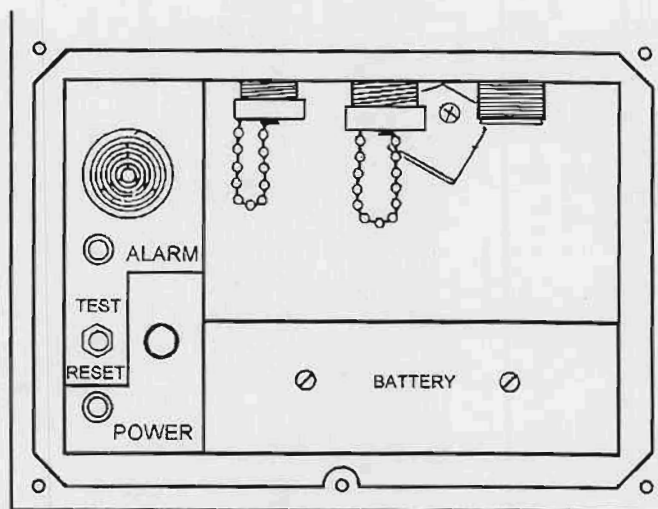

Figure 2-3. Control panel components.
indicator light will be on. No switching or adjusting is necessary. The connector receptacles, switches and indicators of the unit are all located on the control panel (fig 2-3) and are marked with their functions.
(3) *Installation of alarm battery pack.* Install a charged battery pack in the front panel recess (fig 2-3). The indicator of the compartment thermometer will light. If the battery voltage is low, no light will appear on the thermometer. The battery pack will charge automatically when power is provided to the unit. To ascertain the performance of the battery pack, disconnect the refrigerator after approximately 15 minutes and observe the light on the thermometer, indicating proper operation.